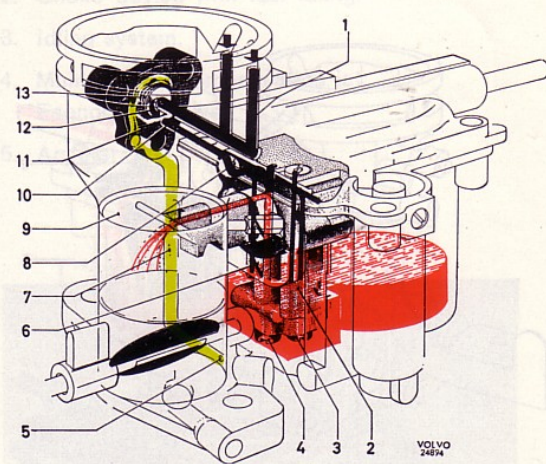

Fig. 67. Jets and economizer valve
A large part of the fuel being fed to the engine when it is under loading and running at high speed passes through the main jet (4, Fig. 67). The main jet alone cannot supply a sufficiently well-balanced amount of fuel under all conditions of operation and is therefore combined with a compensation jet (3) which works in co-operation with the main jet.